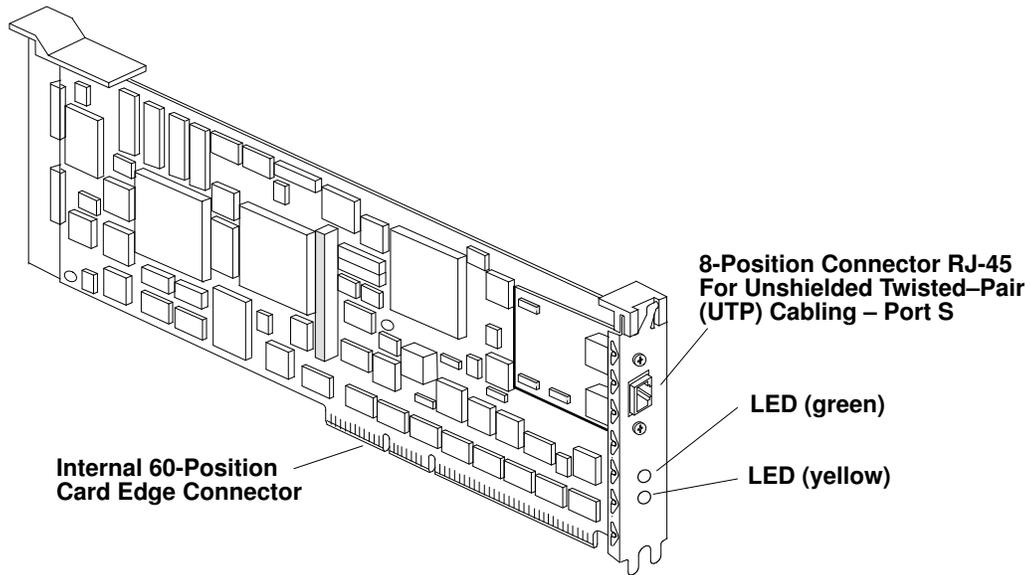

Figure 1. FDDI UTP Single Ring Adapter (Type B2-P MCA).
- Figure 1. FDDI UTP Single Ring Adapter (Type B2-P MCA). 1-2